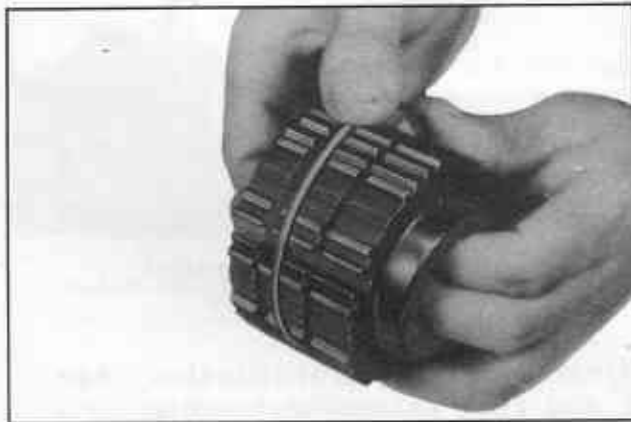

Fig. TM-28 Installing insert snap ring
1. Install the shifting insert snap ring onto the synchronizer hub as shown in Figure TM-28.